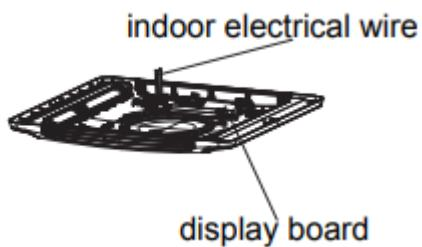

Figure 7
2. As shown in Figure 7, the indoor unit has one set of control signal wires, with 1 wiring terminals in total.